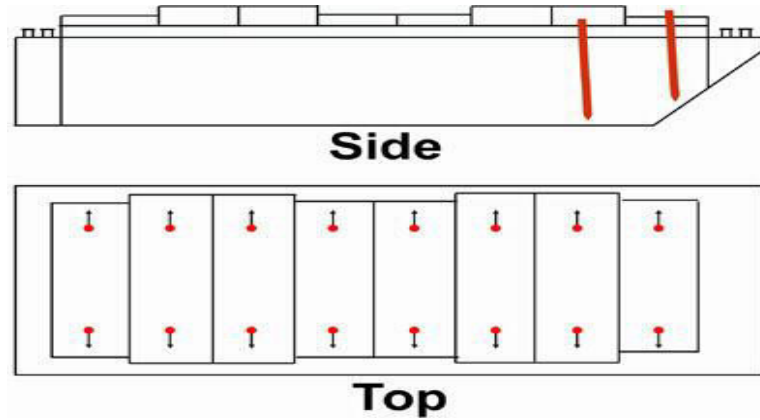

Figure 6 – Storage Bin:
4. Storage Bins should use automatic pneumatic or mechanical sampling equipment or an adequate probe. If this is not possible, collect 5 probes of feed or meal or 9 probes of whole grain according to the sampling pattern (Fig. 6). Collect about 0.5 lbs. from the bottom of the bin using an auger and combine this with the probed sample. If moisture accumulation is suspected, use the probe pattern (Fig. 7) to collect potentially moist material from the edges of the bin separately and potentially less moist material from the center of the bin.